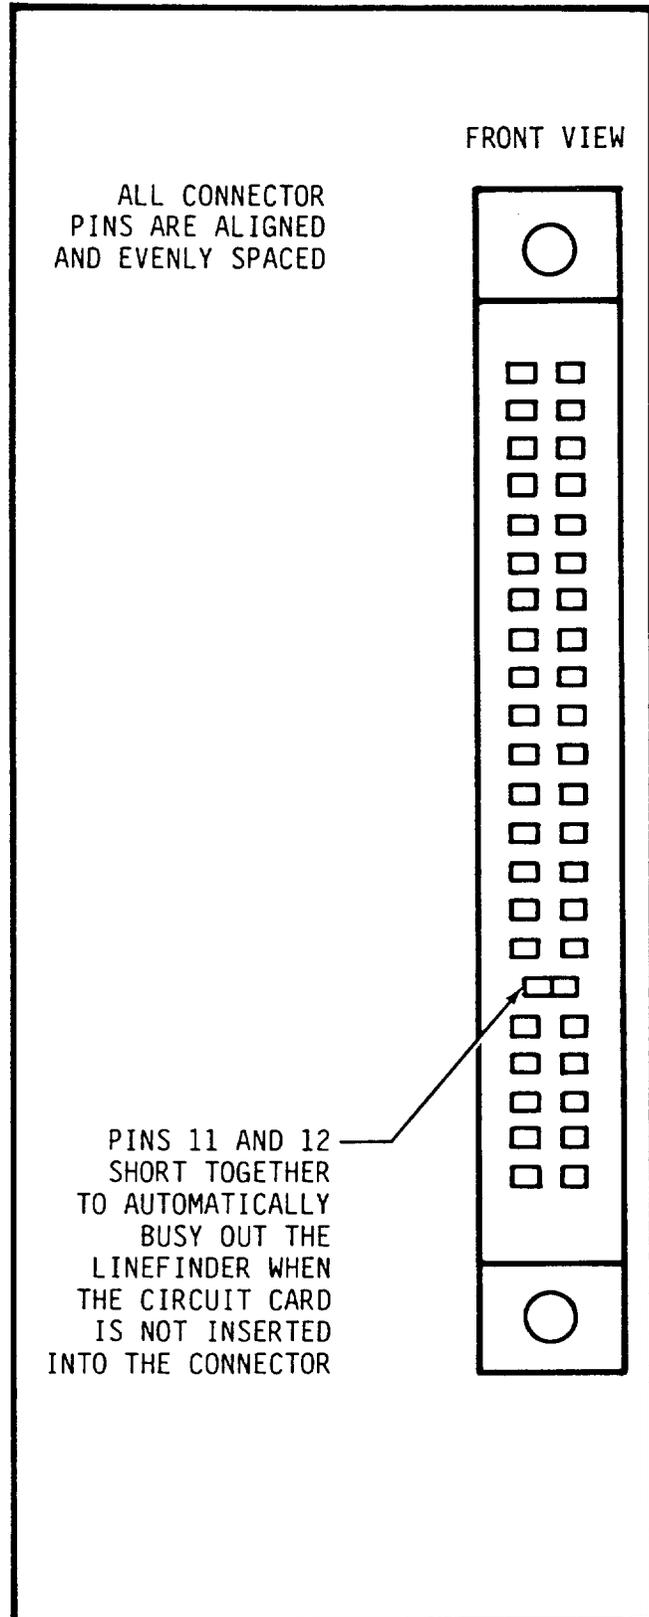

Figure 14 Connector Contacts
6.28 Before inserting the circuit cards into the connectors, check the contacts of the connector and the contacts on the back edge of the card. Look into the card file from the front and verify that none of the connector contacts are bent out of their proper alignment (see Figure 14).